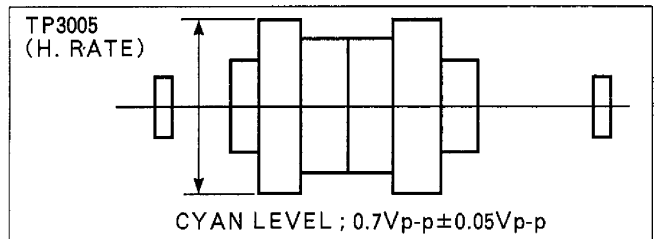

Figure E11
2. Adjust VR3201 so that the cyan level becomes $0.7V_{p-p} \pm 0.05V_{p-p}$ as shown in Figure E11.